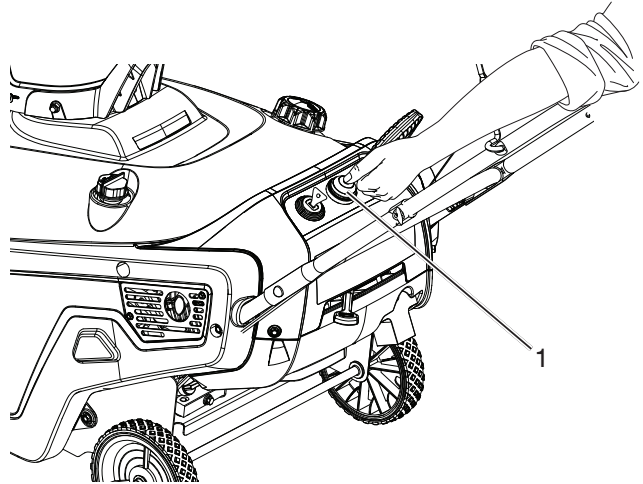

Figure 12
3. Firmly push in the primer 3 times with your thumb, holding the primer in a for a second before releasing it each time (Figure 12).